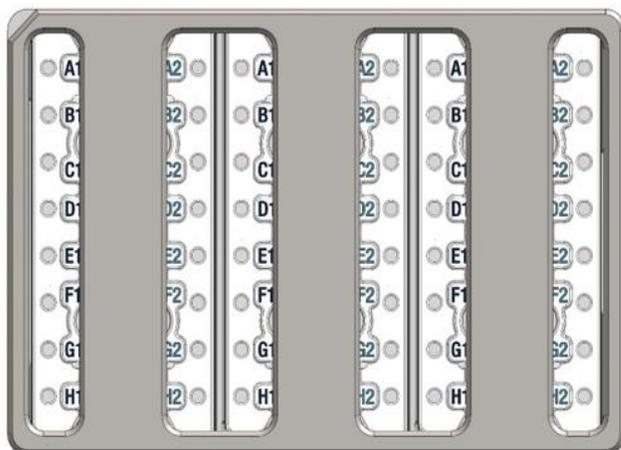

Figure 3 Positioning and orientation
3. Ensuring they are oriented correctly, place up to three RDG16 cartridges in the bottom part of the support device. The cut-out should be in the upper-left corner as shown in Figure 3: